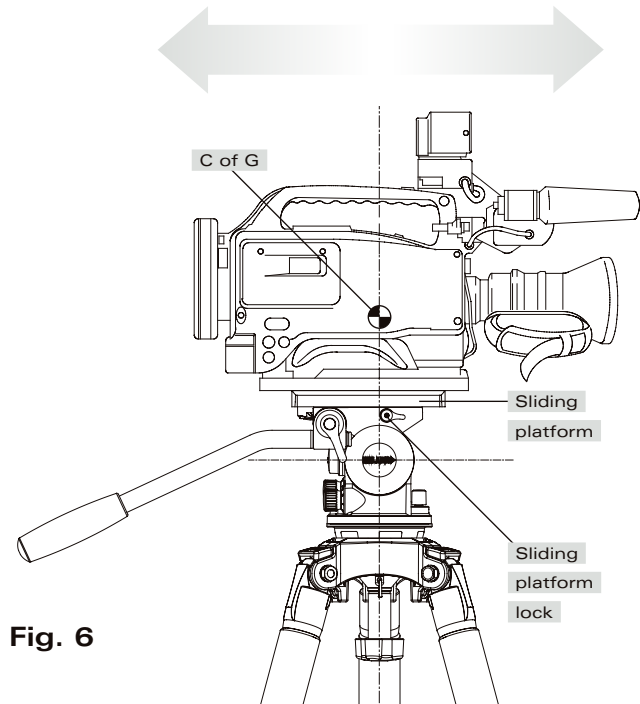

Fig. 6
- 2.6 Release the SLIDING PLATFORM LOCK and slide the SLIDING PLATFORM such that the camera's C of G is directly above the centre axis of the Fluid Head (fig. 6) and tighten the SLIDING PLATFORM LOCK (fig. 6). If this can not be achieved then reposition the CAMERA PLATE on the QUICK RELEASE TRIPOD ADAPTOR - step 2.4. This will ensure that the system has maximum stability.